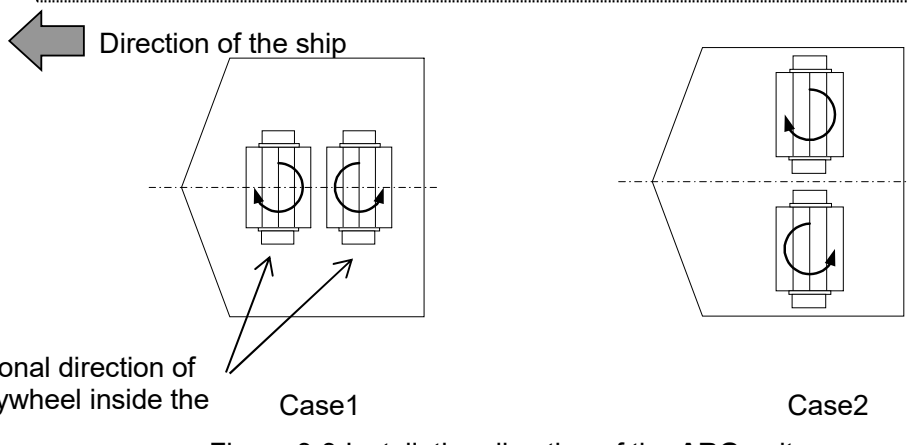

Figure 3-3 Installation direction of the **ARG** unit
- ③ Install the **ARG** unit so that their longer sides are perpendicular to the centerline of the ship as shown in Figure 3-3.
- ④ If multiple **ARG** units are installed, the **ARGs** next to each other must rotate in the opposite directions as shown in Figure 3-3.